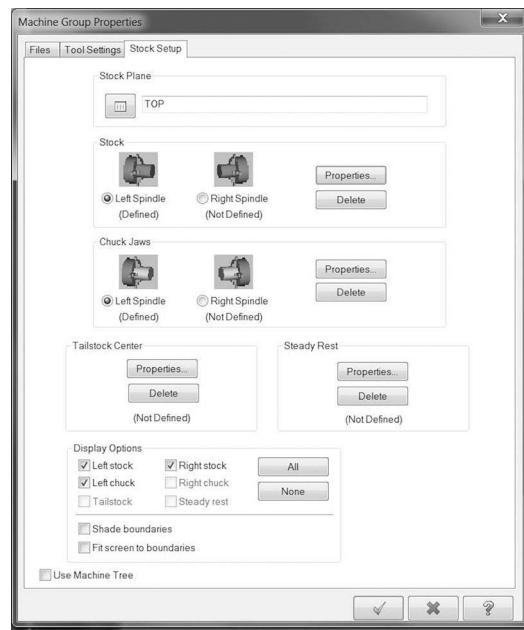
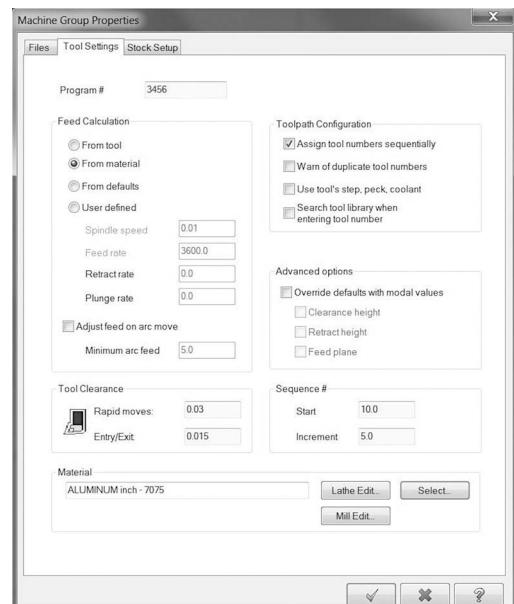

Figure 5-59 Machine Component Manager: Stock
Figure 5-60 Machine Group Properties: Tool Settings
4. In the Operations Manager, expand the Properties Mill-Default to expose Stock setup and left-click to open it. Complete the required information per the blank stock dimensions, as in Figure 5-58 and Figure 5-59.
- For the OD: (X), press the Select ... button to select directly from the model or enter the value, if known.
- Open the Tool Settings tab and complete the dialog per Figure 5-60.